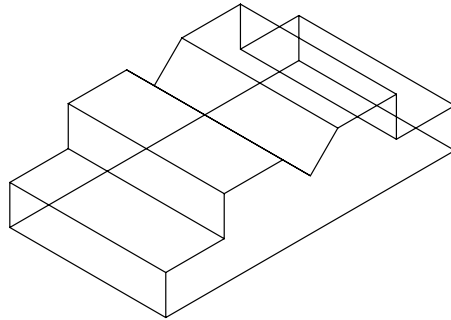

Figure 2-36 The final 3D wireframe model for Example 1
5. The final 3D model should look similar to the one shown in Figure 2-36.